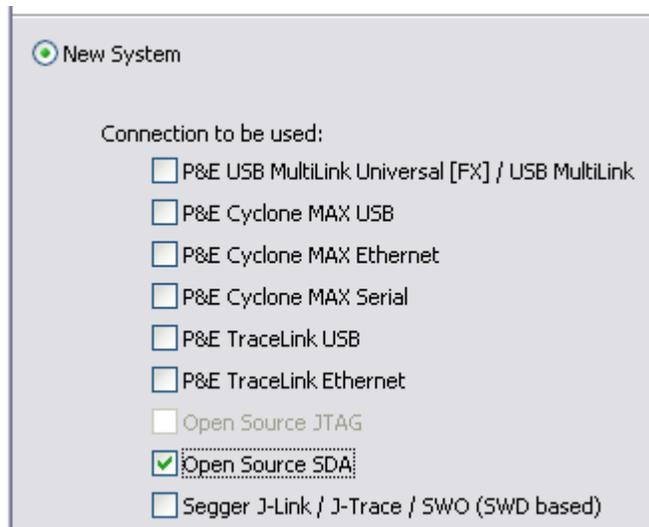

Figure 6. Selecting connection
- The following step lets you choose the connection to be used. The Freedom – KL25Z board uses the Open source SDA connection and this must be selected as Figure 6 explains. Click “Next >” to go on.